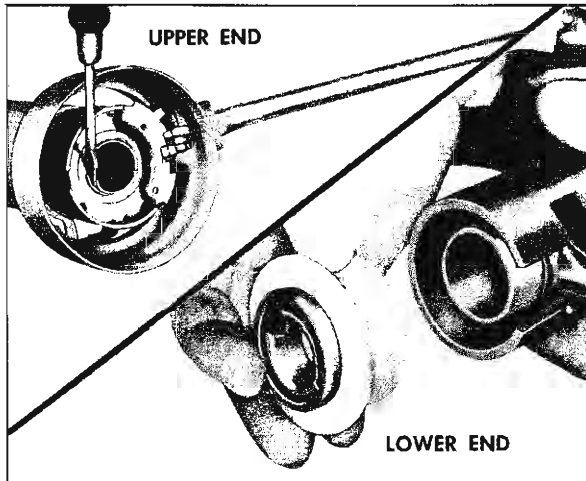

Fig. 25—Shift Tube Retainer Ring, Washer and Lower Bushing
18. From the top of the shift tube, remove the shift tube retainer ring and washer (fig. 25).
19. From the lower end of the mast jacket, remove the shift tube bearing retainer (fig. 25).